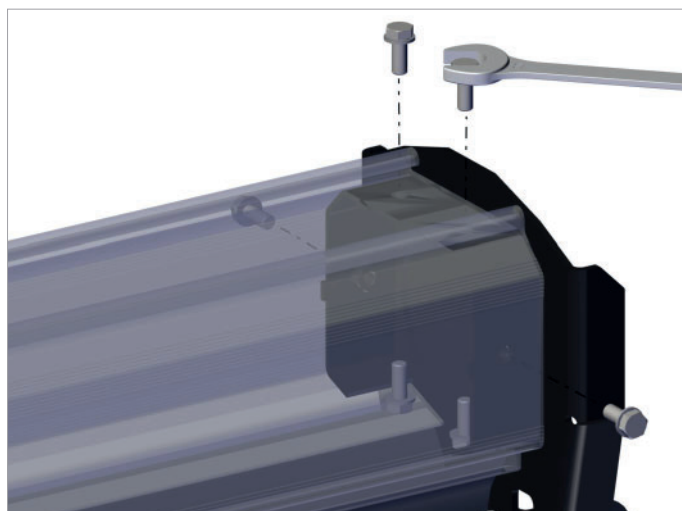

Fig. 4.3.5 Mounting the cover plate
- Attach the CRS cover plate to the other end of the rail and secure with 4x M8x20 bolts and 4x M8 washers using wrench 13 (½ in.). Refer to fig. 4.3.5.